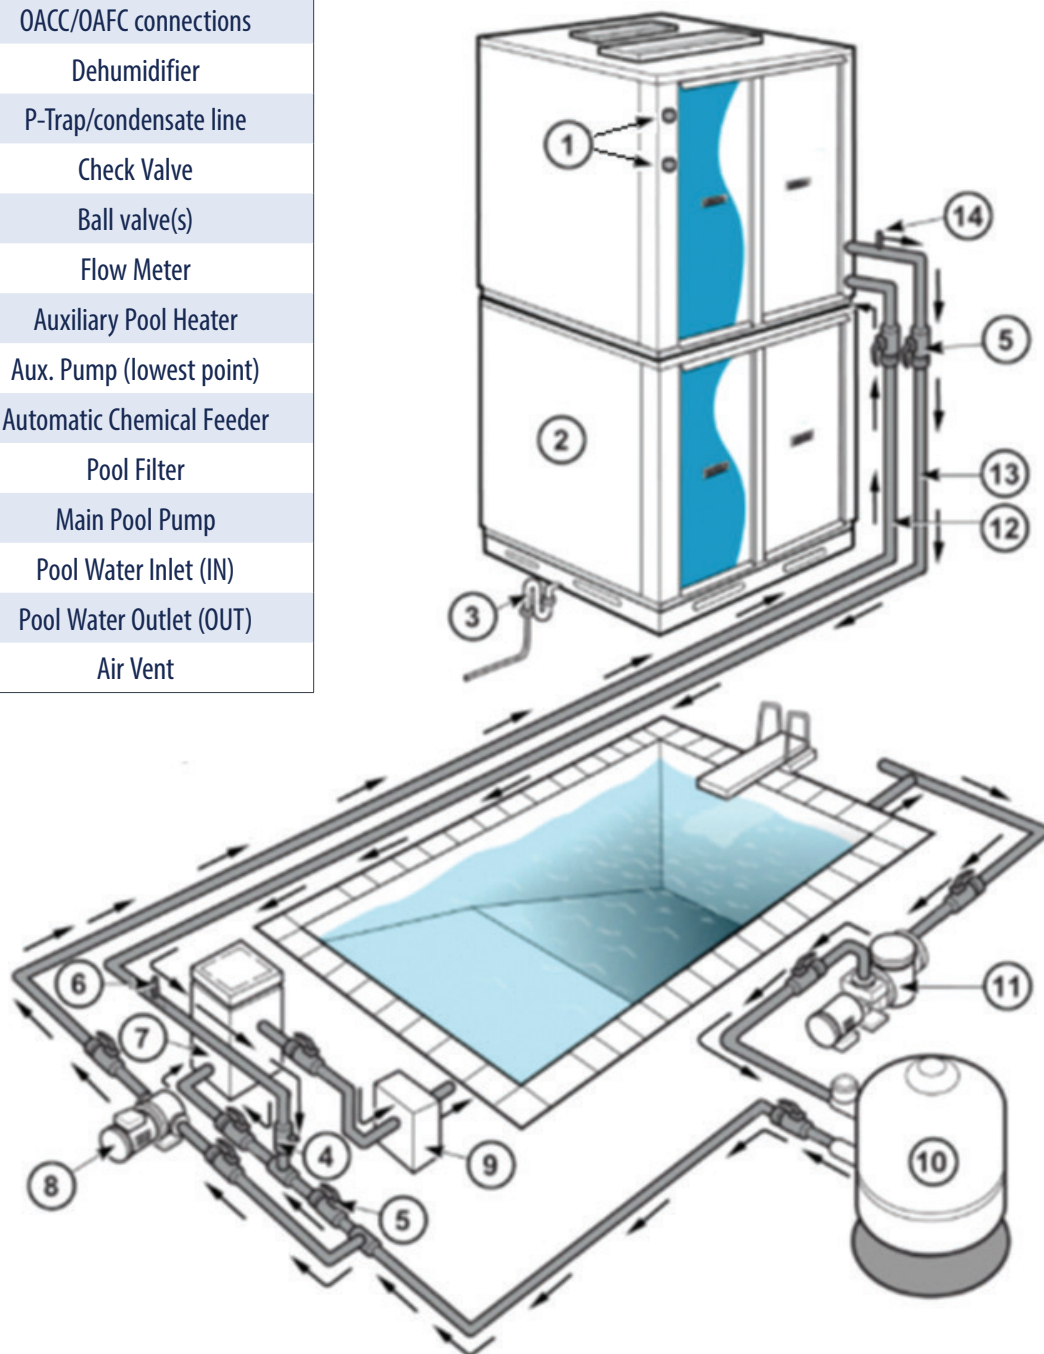

Figure 18. Generic Pool Water Piping Schematic
Figure 18 shows an example of a generic pool water piping schematic.
- As shown in Figure 18, the chemical feeder must be located **downstream of (after)** the dehumidifier to prevent the pool water heat exchanger from being exposed to high chemical concentration.